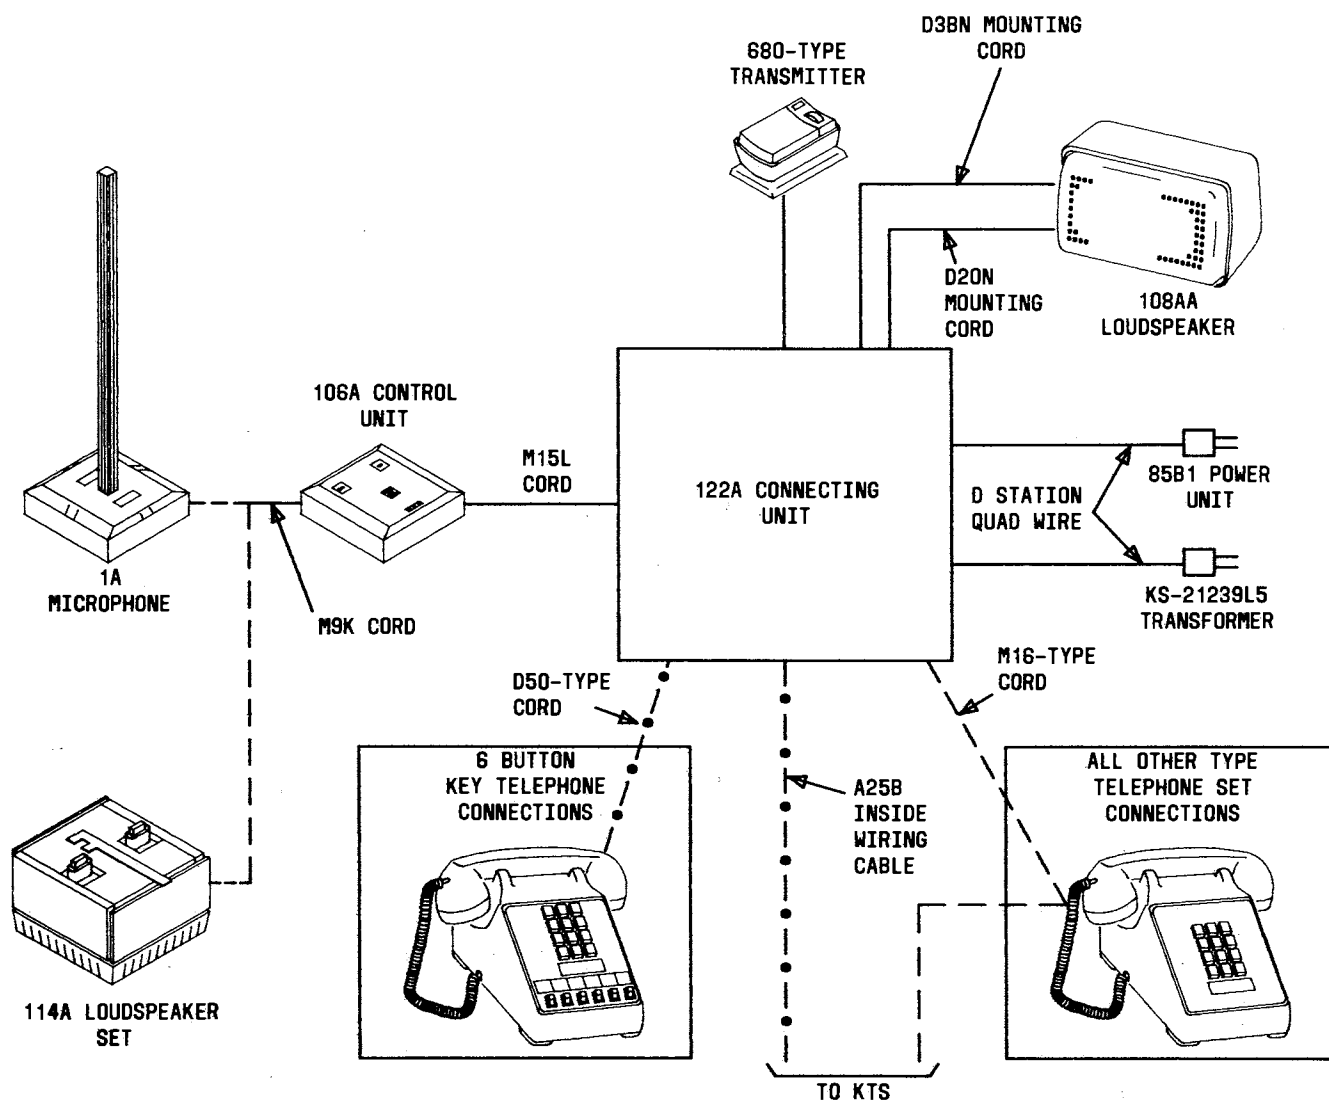

Fig. 1—100A Conference System Connected to a 4A Speakerphone System
1.01 This section contains information on the 100A conference system when connected to a 4A speakerphone system. The 100A conference system consists of a 1A (linear array) microphone, 106A control unit (controller), KS-21239L5 transformer, 122A connecting unit, and an optional 114A loudspeaker sets. The M9K and M15L cords are used to connect the units together (Fig. 1).